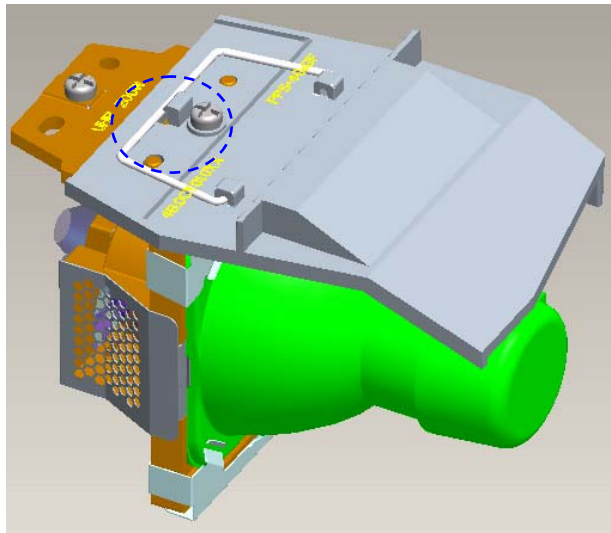

Fig. 1-15
- v. Assemble Plate Lamp to the HLD Lamp and fasten the screw(Fig. 1-15)